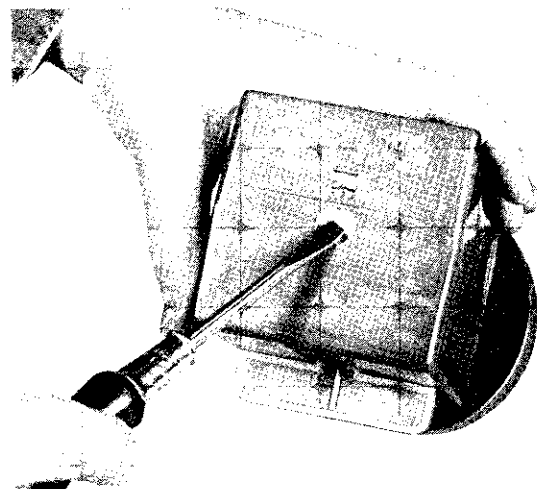

Fig. 2—Adjusting Floor Level Compensators
- (3) Turn dial on side of transit until bubble in spirit level is centered.
(4) When bubble is centered, note "plus" or "minus" reading on compensator scale. This figure indicates degree of slope of floor and must be transferred to each aimer.
- (5) With a screw driver, turn adjusting slot of floor level compensator in each aimer, until correct plus or minus figure (or fractional part) appears in proper window (Fig. 2).